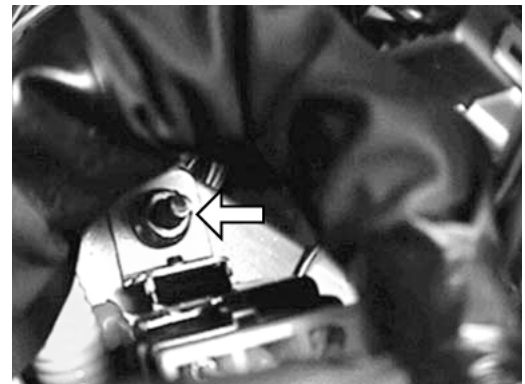

Figure 2
3. Install the relay bracket onto the stud with the M6 nut indicated by the arrow in Figure 2. The stud is located behind the fuse box.